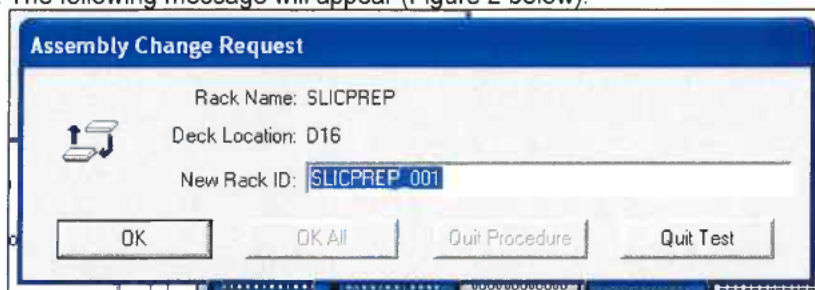

Figure 2. Scan batch ID request
27. The following message will appear (Figure 2 below):